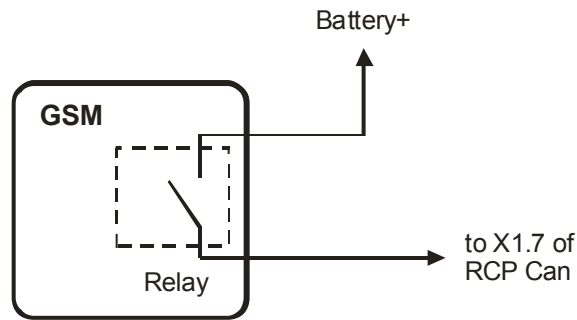

Figure 8
- Some GSM modules can control an additional device through the inner relay. These may be connected to RCP by the scheme at the figure 8. The heater operates while the relay contacts are closed.